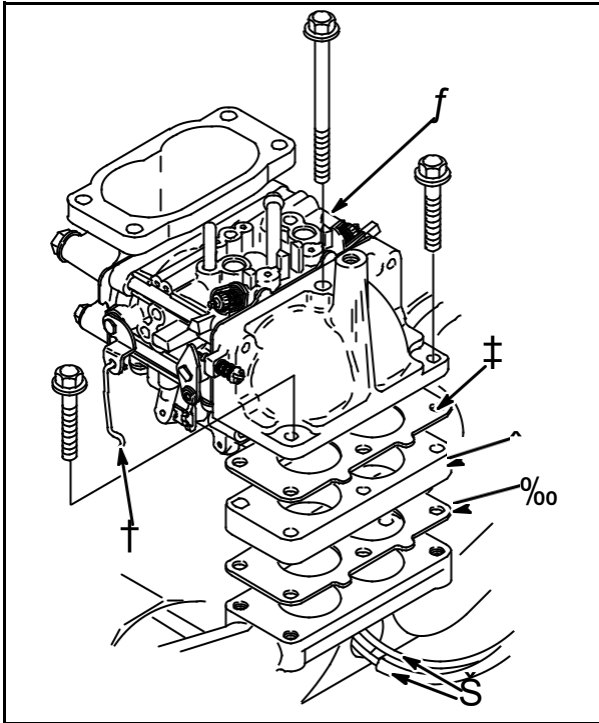

Fig. 33
3. Assemble choke link (6) to choke lever, **Fig. 33**.